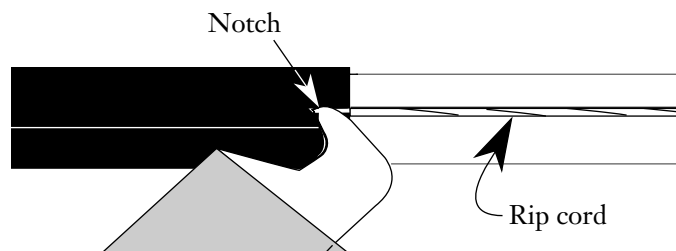

Figure 10
4.13 Locate the inner rip cords. Use the hook blade knife to make starting notches in the cable sheath for each rip cord (Figure 10).